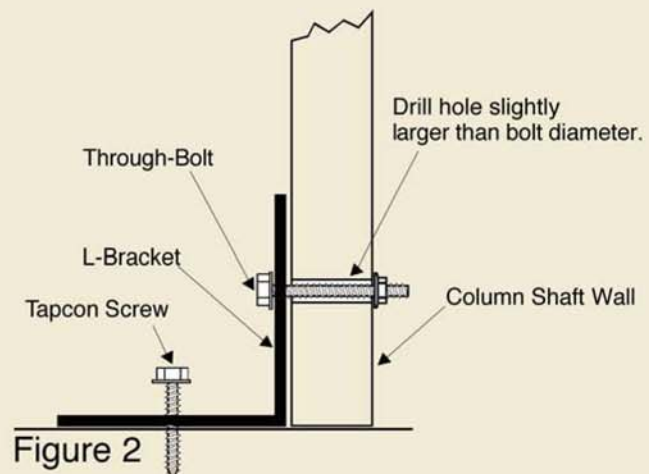

Figure 2
4. If installation requires some method of securing the column in place before load is applied, use Endrua-Stone Installation Kit #71760 (see figure 2) NOTE: Always drill clearance holes in columns and secure with through-bolts — DO NOT USE SCREWS — and do not over-tighten.